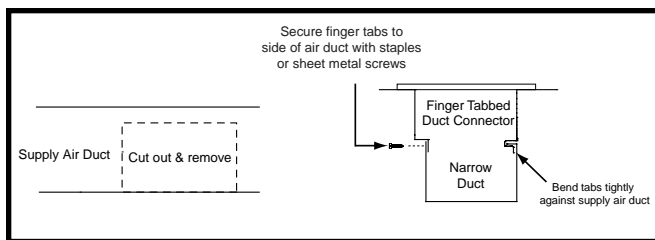

Figure 17. Narrow Ducts - Option 2
3. Bend the tabs on the bottom of the duct connector upwards and as tight as possible against the supply air duct (Figure 17, page 18).